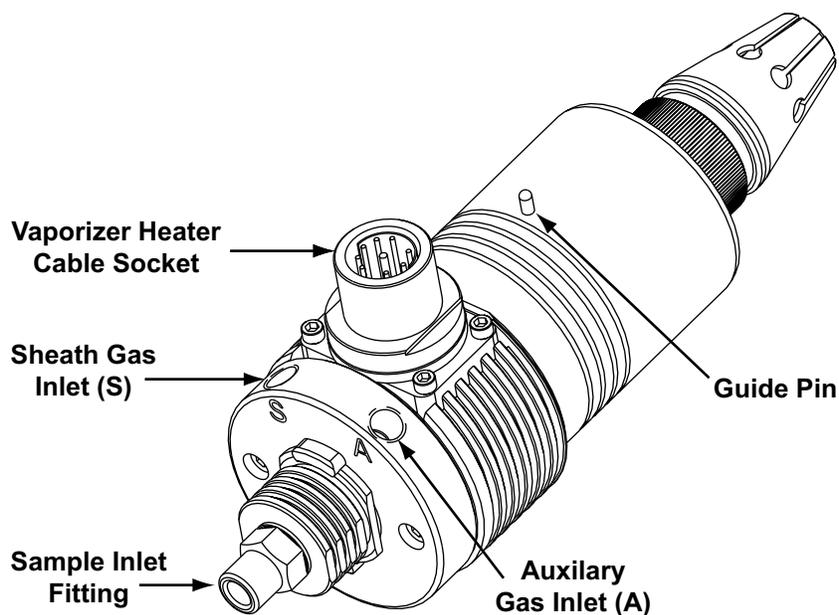

Figure 55. APCI probe
3. Insert the APCI probe into the port in the ion source housing, align the guide pin on the probe body at a 45 degree angle from the API interlock block. See Figure 55
10. Connect the sheath gas fitting (blue) to the sheath gas inlet (S) on the probe. (See Figure 55)
11. Connect the auxiliary gas fitting (green) to the auxiliary gas inlet (A) on the probe. (Figure 55)